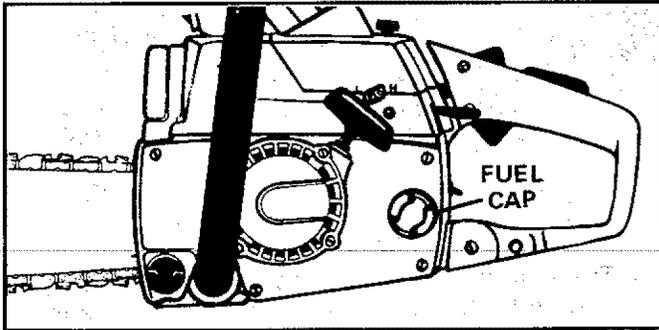

Figure 11
- c. Avoid over filling the fuel tank. Allow 3/4 inch for expansion. Tighten Fuel Cap securely. Figure 11.